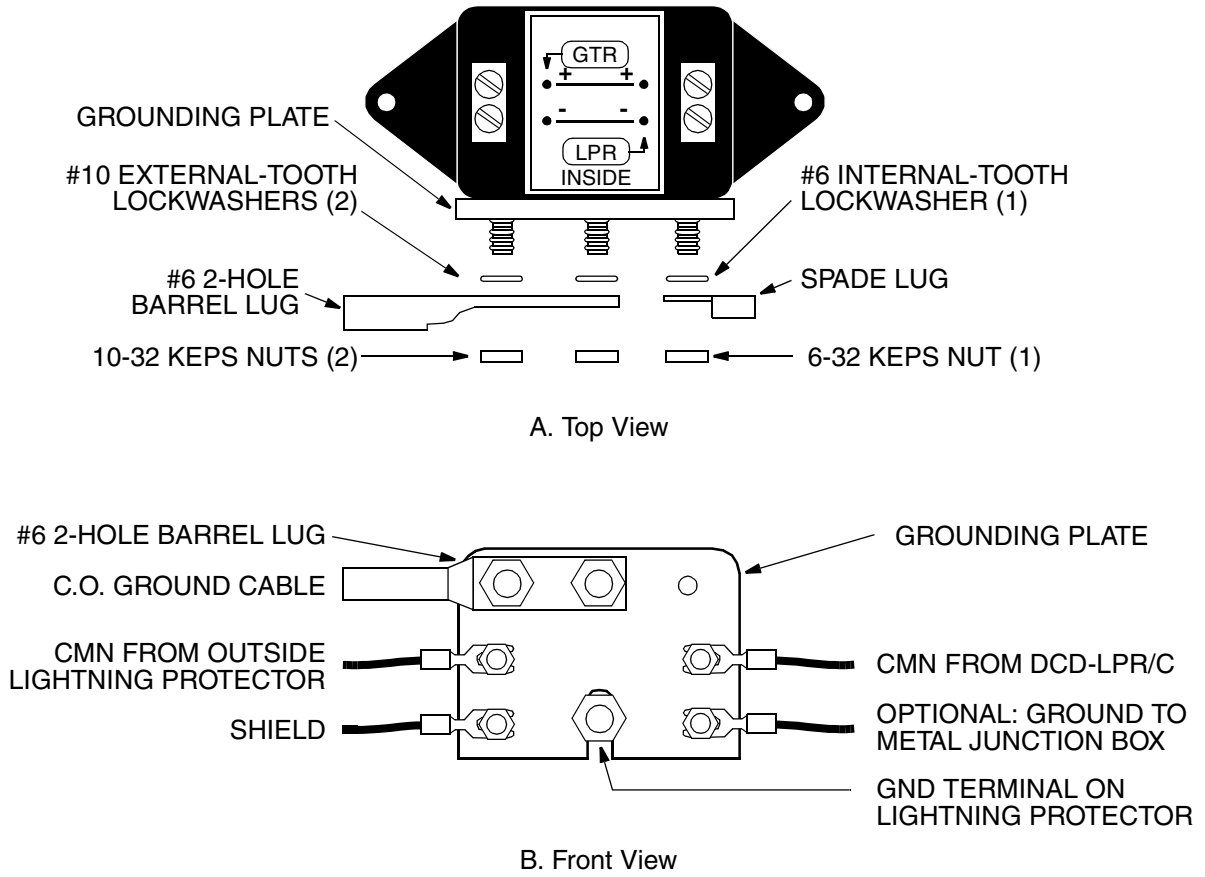

Figure 13. GTR Grounding Plate Connections (Dual Lightning Protector - Inside Installation)
9. Install an external-toothed lockwasher over one of the #6 studs (the small studs) on the LPR end of the grounding plate (it is recommended to use the stud that is directly across from the CMN lead of the GTR cable). (See Figure 13.)
1. Refer to Figure 13 for the grounding plate connections.
17. Obtain the drain wire and CMN leads of the power cable from the inside lightning protector. Install an external-toothed lockwasher over the two #6 studs (the small studs) on the GTR end of the grounding plate (Figure 13).